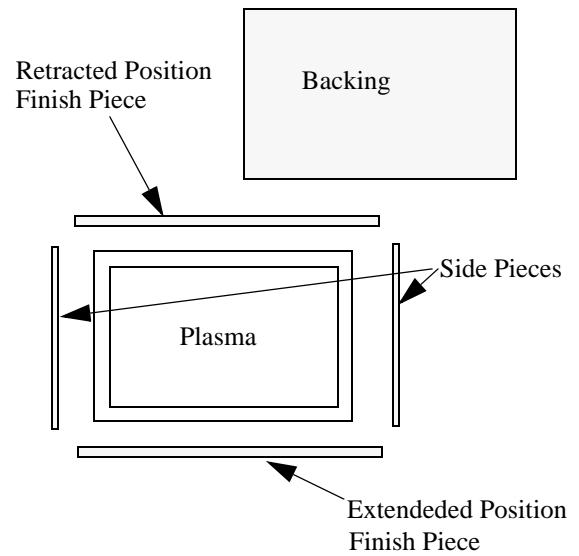

Figure 7. Retracted Position Finish Piece
3. Cut a top piece, matching the dimensions of your extended position finish piece (see Figure 7).